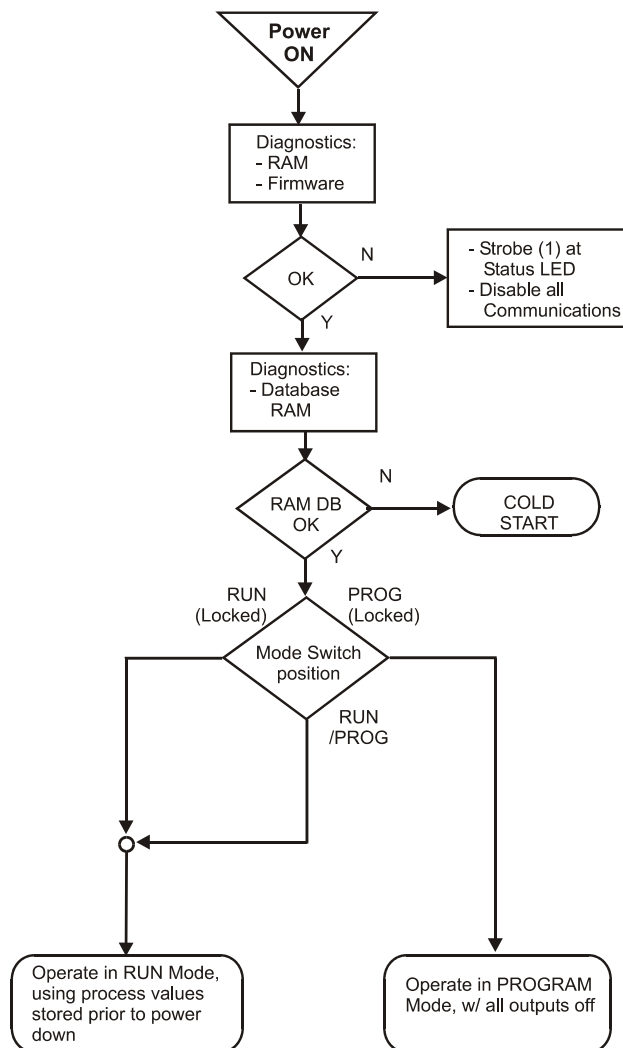

Figure 73 – Warm Start Operation
A Warm Start is a restart of the control strategy using dynamic data that is stored in battery backed RAM to allow control action to resume exactly as it was before the restart. In the Warm Start procedure (flowcharted in the main flow of Figure 73), diagnostic testing proves the integrity of the hardware, software, and configuration database resulting in an automatic Warm Start of process control. Control action is resumed exactly as it was before the outage.
- After a power outage, when diagnostics indicate that the controller hardware and software program are intact, but the content of the RAM database is incorrect. (See Figure 73.)